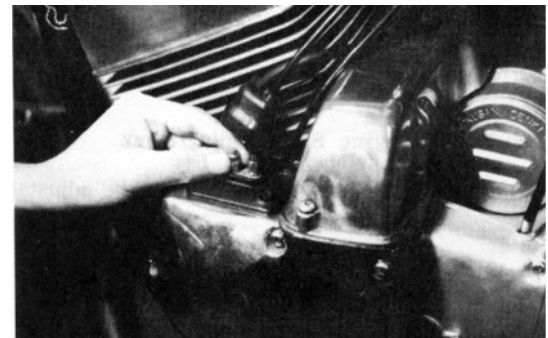

Fig. 77 Idling adjustment
1. When the engine stops at engine idling speed, control the engine speed with the throttle grip and turn the idle speed adjuster on both carburetors until the engine runs smoothly. (Fig. 77)